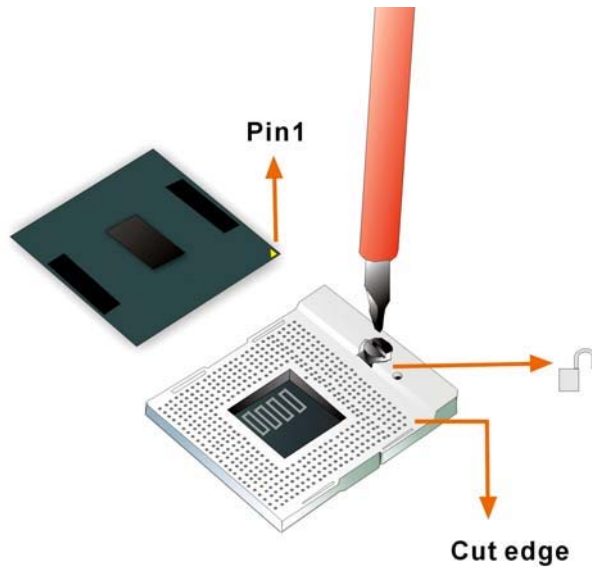

Figure 3-5: Make sure the CPU socket retention screw is unlocked
Step 1: Unlock the CPU retention screw. When shipped, the retention screw of the CPU socket should be in the unlocked position. If it is not in the unlocked position, use a screwdriver to reposition the screw in an unlocked position. (See **Figure 3-5**)